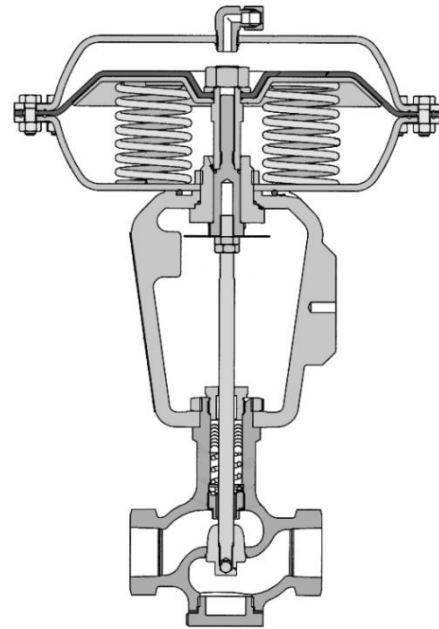

Figure 1: Air to Open
9. To reassemble the diaphragm, diaphragm plate, and washer will fit on the end of the upper stem and tightened with the diaphragm nut. See figures 1 & 2 for proper orientation of the ATO or ATC actuation.
- a. If this is for air-to-open, 6 springs for 50in & 8 springs for 100in actuator must sit between the lower case and the diaphragm plate. Make sure to line the springs up with the depressions on the diaphragm plate and only rotate the spindle so that the springs remain seated while tightening. See Figure 1.